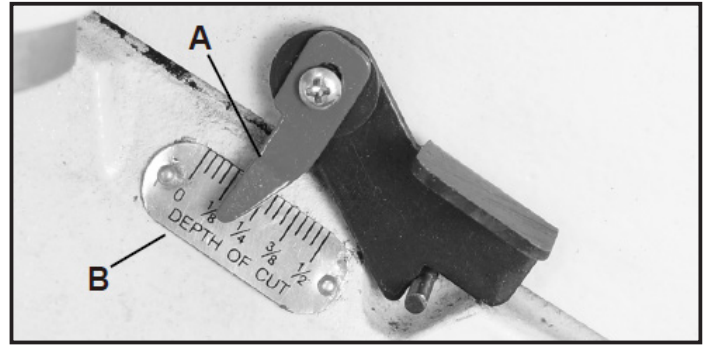

FIG.6.5
The jointer can be set to cut any depth from a very thin shaving to 1/8" deep. The pointer (A) on the scale (B) is to indicate the depth of cut. FIG.6.5.